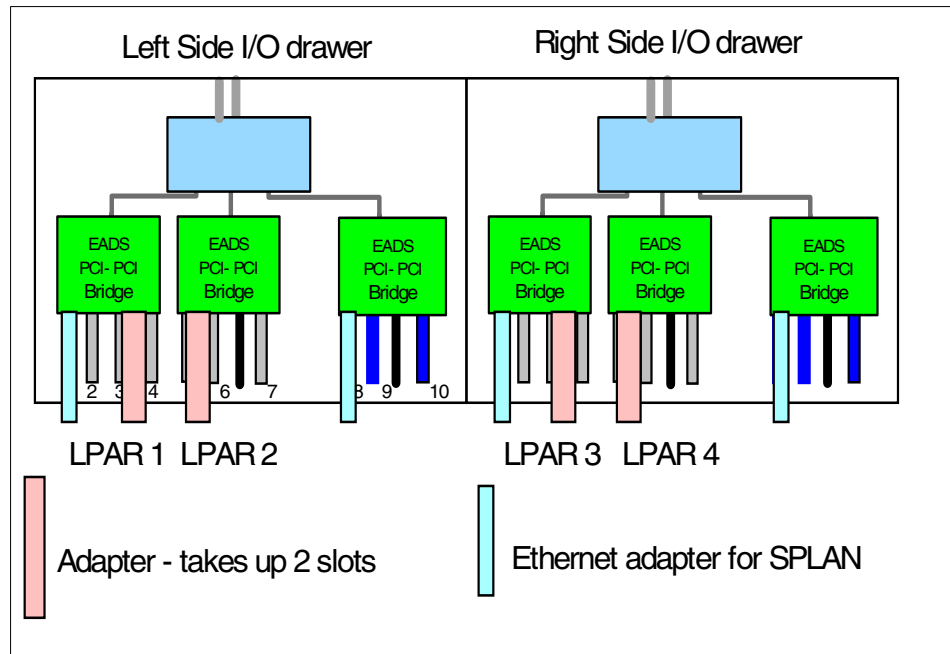

Figure D-13 Single-plane SP Switch2 with four SPLAN adapters
For best performance, we recommend that no other adapters be plugged into slots supported by this EADS chip, except for the SPLAN Ethernet adapter. In Figure D-13 on page 205, we show the maximum usage of one I/O adapter drawer. If you want to use more than the shown I/O adapters (for example, Fibre Channel (FC) or LAN adapter), you need to use additional I/O drawers.
Figure D-13 shows an SP Switch2 adapter using a single switch plane configuration for four LPARs.